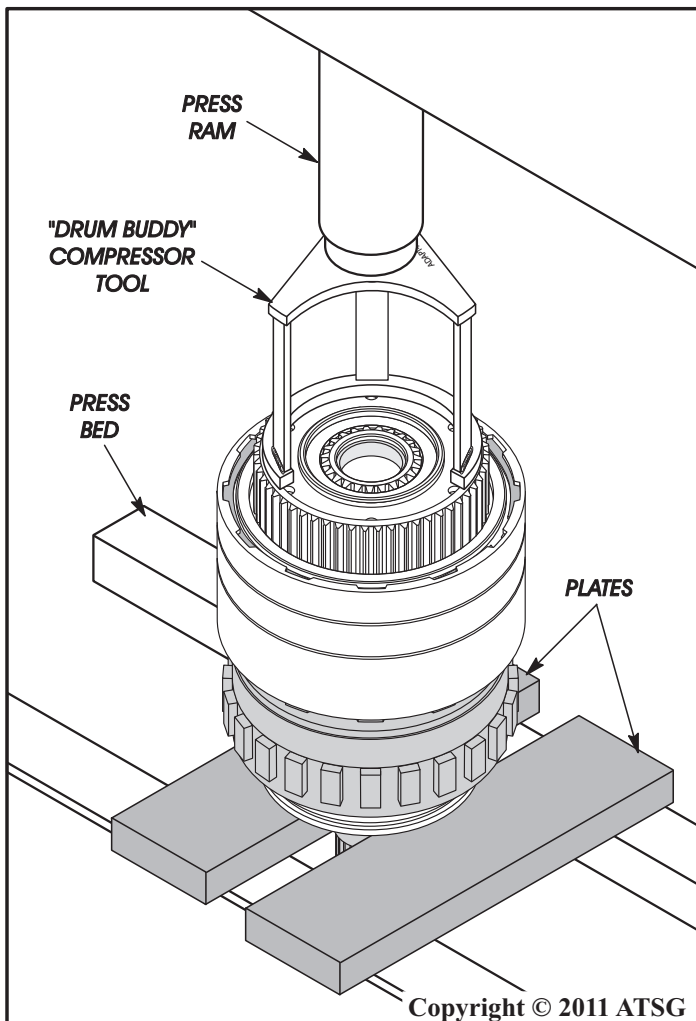

Figure 154
17. Mount the overdrive geartrain assembly into a shop press, as shown in Figure 154.
18. Support the output shaft flange with steel press plates and center geartrain assembly under the press ram, as shown in Figure 154.
19. Position compressor tool 6227-1, or a similar size tool, on top of the clutch hub, as shown in Figure 154.